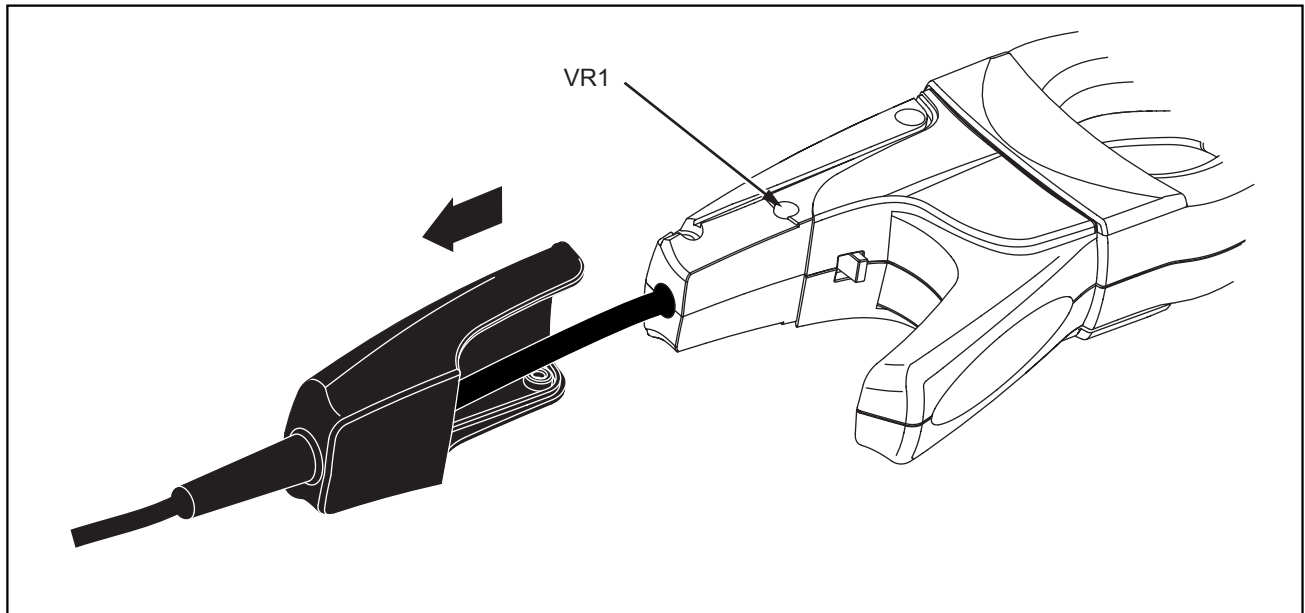

Figure 3. i400s Calibration Point
2. Referring to Figure 3, slide the rubber boot on the UUT handle back to access the adjustment point, VR1.